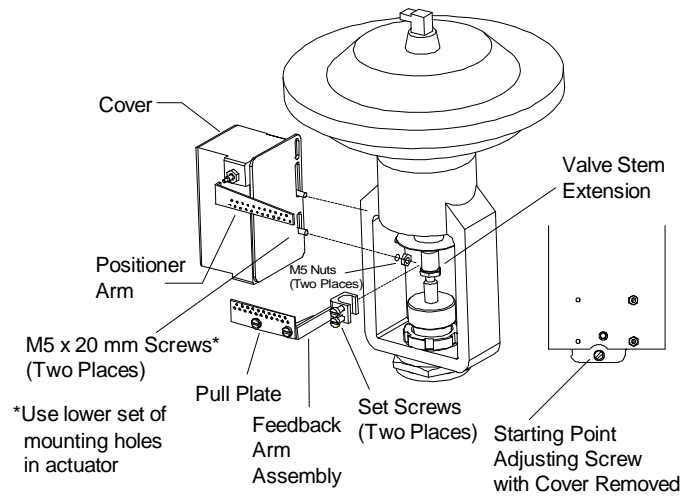

Figure 1: V-400 Positioner Mounting
Kit Includes (See Figure 1)
The starting point adjustment is the brass screw located on the positioner (under the cover, refer to Figure 1). Turning the screw Counterclockwise (CCW) will increase the start point, turning it Clockwise (CW) will decrease the starting point.